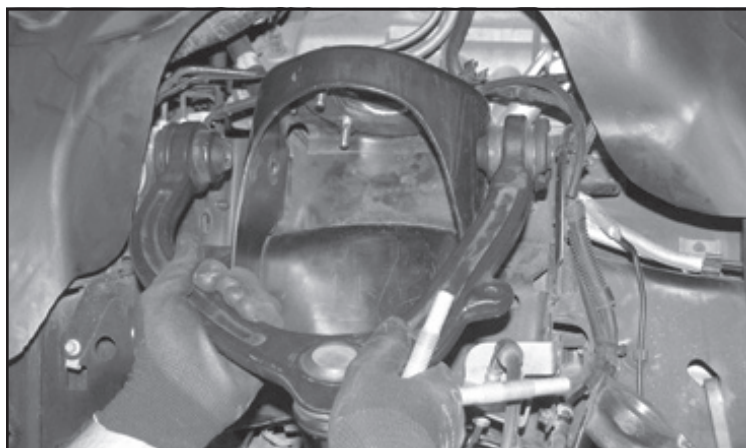

FIGURE 2 - STEP 3
3. Remove the upper control arm. **SEE FIGURE 2**